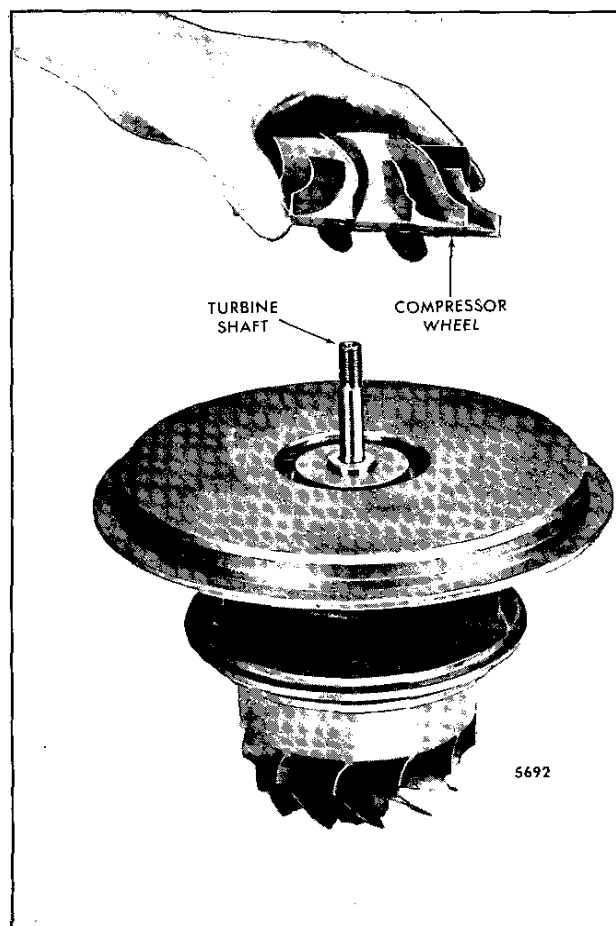

Fig. 5 - Removing Compressor Wheel from Turbine Shaft
6. Remove the compressor wheel from the turbine shaft assembly by hand (Fig. 5). The wheel is a slip fit on the shaft.